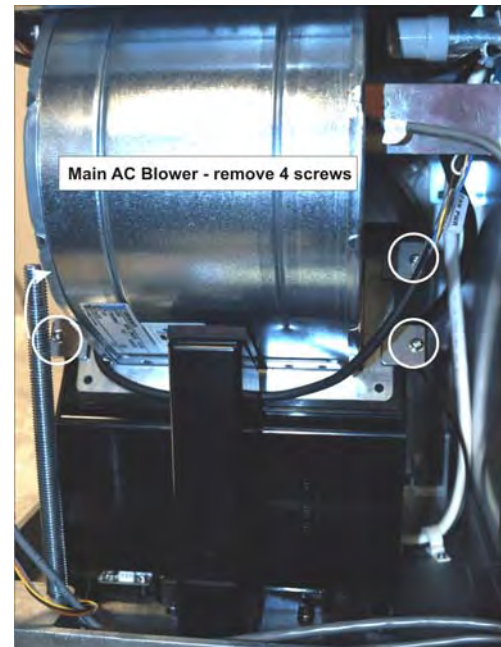

Figure 5-52 Main AC Blower
5. Using a 3mm hex key, remove the four screws securing the blower to its mounting bracket (**Figure 5-52**).